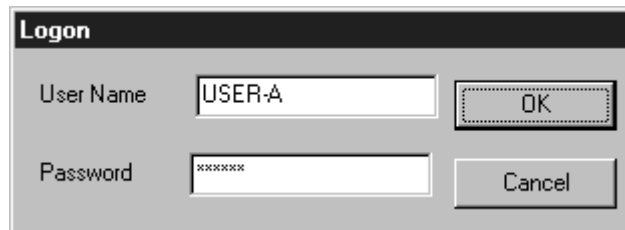

Fig. 3.5 Logon Dialog Box
- \* 2. The same Logon Dialog Box shown in *Fig. 3.5* is displayed.